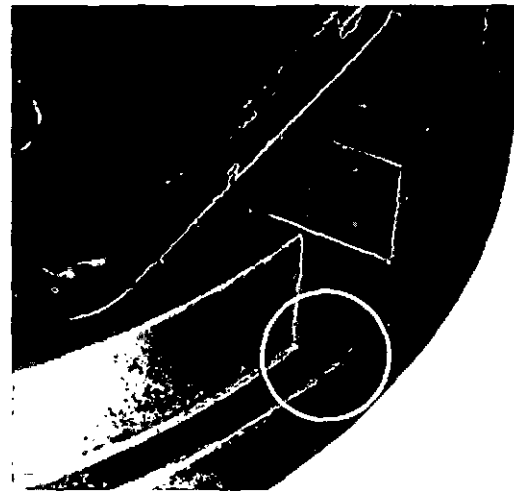

Fig. 1-28 (V10195). The Cutting Tool Installed In The Cutter Plate.
1. Install the cutting tool in the cutter plate. The tool must be put so that the lower edge of the tool is below the pilot diameter of the cutter plate, Fig. 1-28. Tighten the clamping screws.